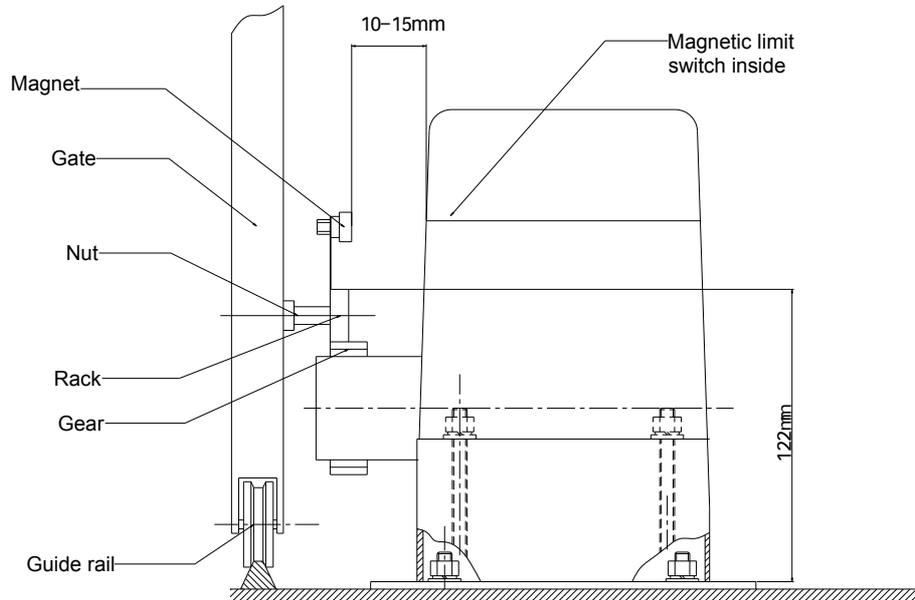
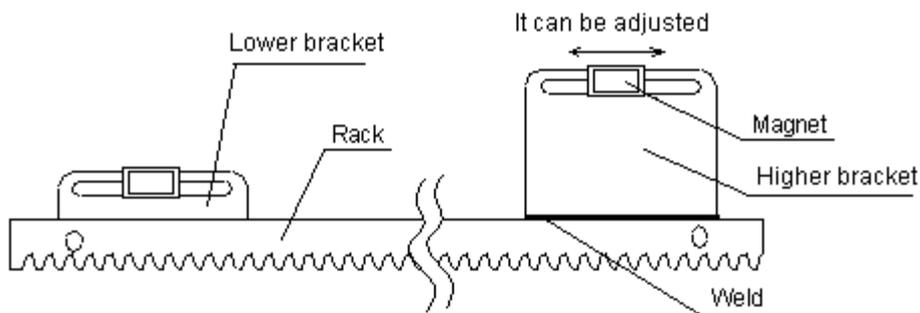

Fig.4
Fig.5
- Install the magnet and magnetic limit switch as shown Fig.4 and Fig.5. The magnet and limit switch are used to control the position of the gate.